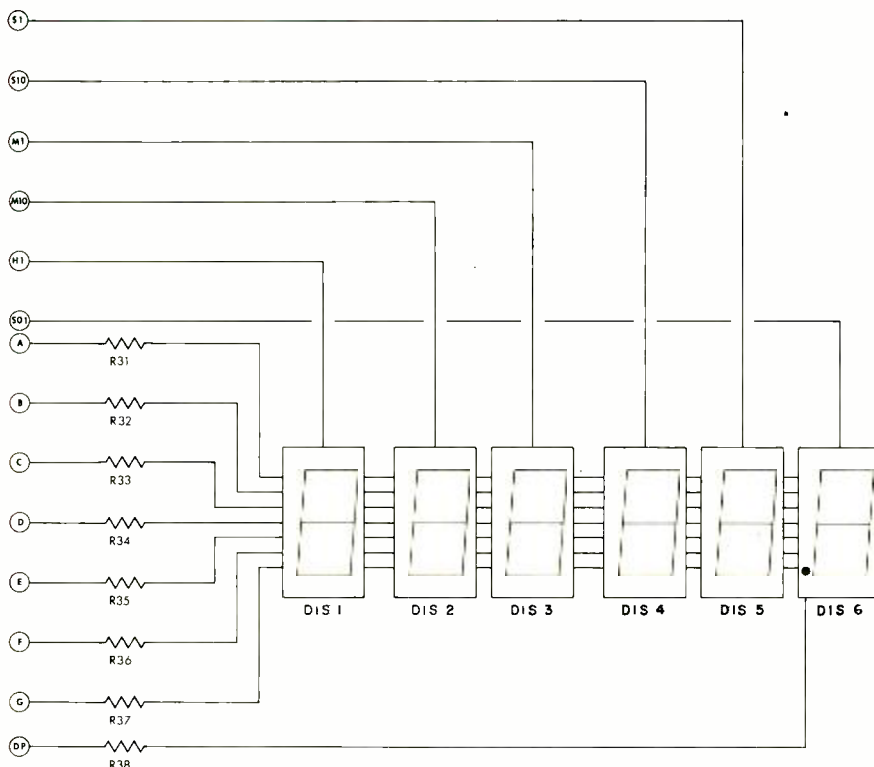

Fig. 1. Complete schematic of stopclock is shown above and on opposite page.
**Construction.** The stopclock is best assembled on two printed circuit boards, the etching and drilling and component placement guides for which are shown in Fig. 2. The circuit is split between the main and display boards as shown by the two sections in Fig. 1.
Connect and solder the free ends of the wires coming from holes H and I to the lugs of *TS1* and the free ends of the J, K, L, and M wires to lugs 3, 6, 4, and 5, respectively of *TS2*. Solder 5" lengths of hookup wire to each of the lugs on *TS2* and wire them to the switches as shown in Fig. 1. Label *TS1* 12 VOLTS AC and lugs 3 through 6 on *TS2* STOP, START, RESET, and GROUND, respectively. Then label switches *S1*, *S2*, and *S3* STOP, START, and RESET, respectively.